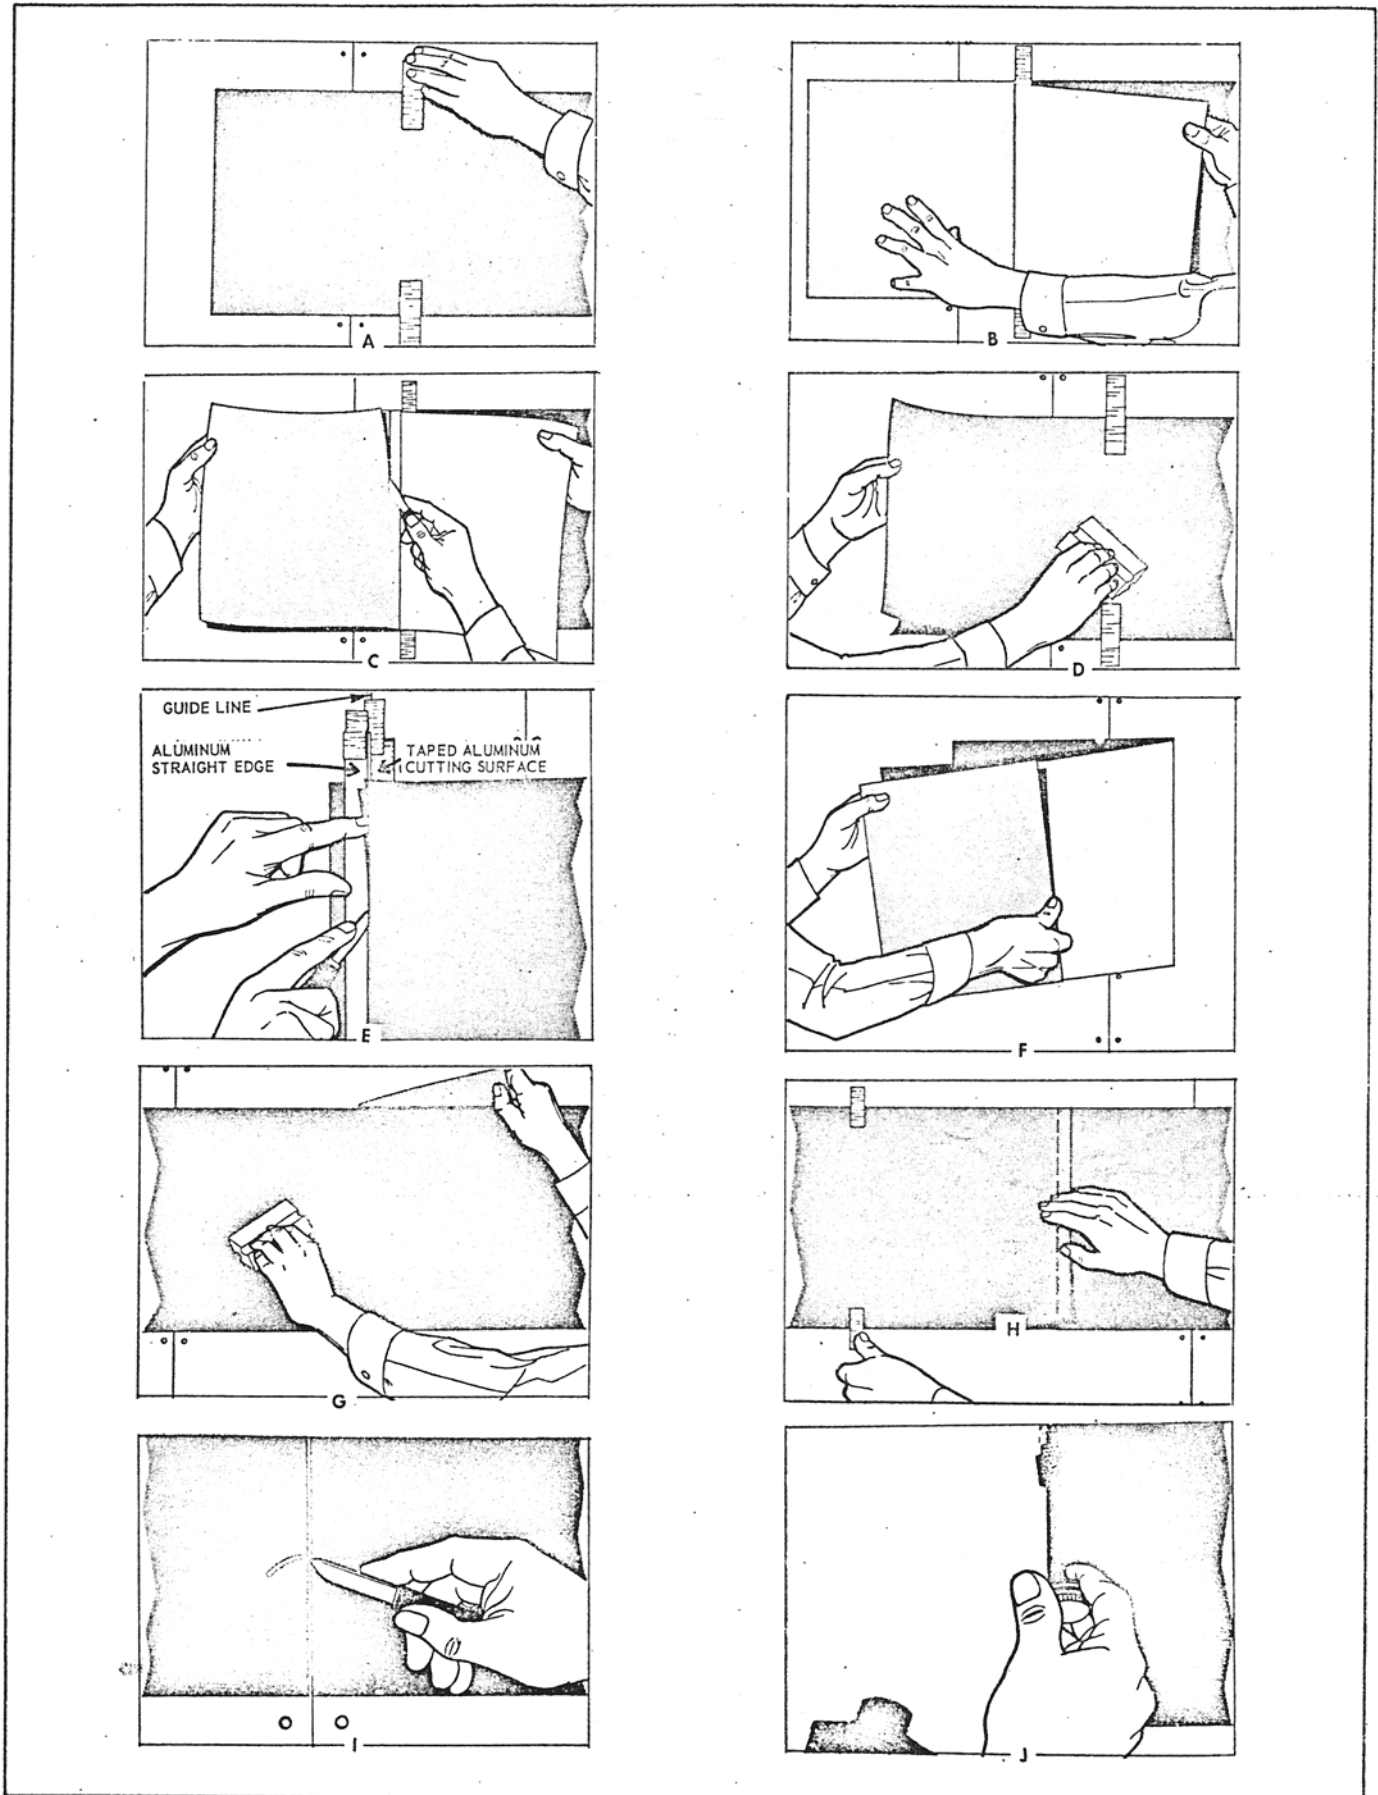

Figure 6-1. Application Technique for Fluorescent Film.
a. Position cut section of film on aircraft skin. Hold in place with several strips of one-inch masking tape. These strips also act as a hinge for application. Film is usually hinged about one-quarter distance from end which will first be applied (see figure 6-1).
b. Fold section to be applied back to the tape hinge and strip paper liner from film (see B, figure 6-1). Cut paper at the hinge with sharp blade. Do not tear (see C, figure 6-1).
c. Fold film back and hold slightly away from aircraft skin to prevent premature contact of adhesive. Start at center of hinge area and apply film to surface with plastic squeegee (see D, figure 6-1). Work
Trimming of film is required around windows or to fit within a special design. In case of window area, apply film up to 1/2 inch of a window. Proper procedure for trimming is to stop application several inches from edge to be trimmed. Place two-inch wide piece of aluminum (covered with masking tape to prevent scratching aircraft skin) under edge of film to be trimmed. Lay another straight edge on top of film and trim with sharp blade (see E, figure 6-1). Remove aluminum cutting guides and squeegee film to surface.
d. Fold unapplied portion back and start removing paper liner away from the applied portion. Remove approximately two feet of paper, crease paper (do not cut) (see F, figure 6-1). Squeegee film to surface and continue removing paper liner in short sections and applying film (see G, figure 6-1).
e. Overlap succeeding sections of film a minimum of 1/2 inch over edge of section already applied (see H, figure 6-1).
f. Cut film at metal skin overlaps and access plates. Feather back 1/8 inch from metal leading edges (see I, figure 6-1). This is required for thorough edge sealing as specified in paragraph 6-12.
b. Sealer will extend at least 1/4 inch on each side of film edge (see J, figure 6-1).